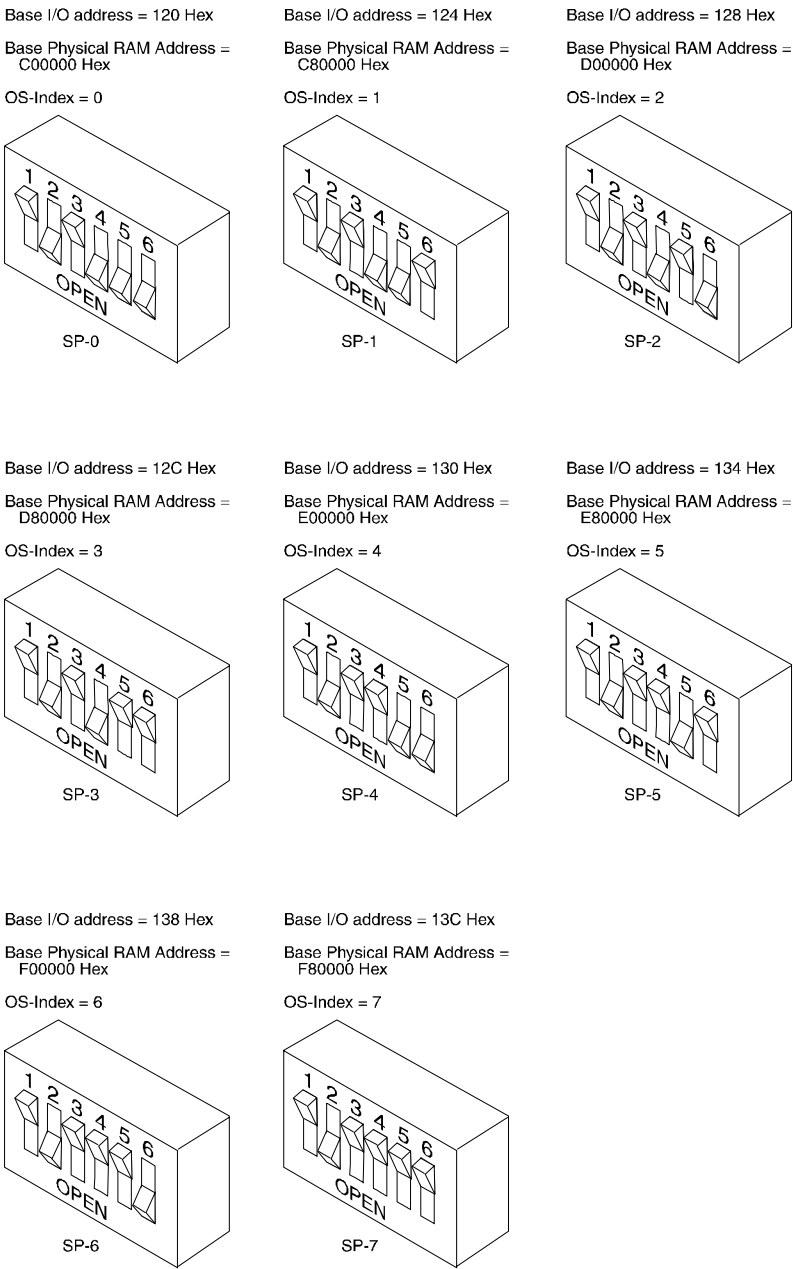

Figure 5-22. Switch Settings for Signal Processor (AYC2C) and Text-to-Speech (AYC9) Circuit Cards 0 through 7
You must set one bank of switches on the SP circuit card. Set the switches as shown in Figure 5-22 for the correct I/O address switch settings for cards SP-0 through SP-7.
Notice in Figure 5-22 that the switches are numbered one (1) through six (6). Switch 1 is a no-option switch. This means its setting is not important. The figure shows this switch as open, but it does not matter if it is open or closed. Switch 2 must be closed. Switch 3 must be open. Figure 5-22 also displays the OS index number for the corresponding switch settings. The INTUITY CONVERSANT system uses this index to identify each SP card.
You must set one bank of switches on the TTS circuit card. Set the switches as shown in Figure 5-22 for the correct I/O address switch settings for cards TTS-0 through TTS-7.